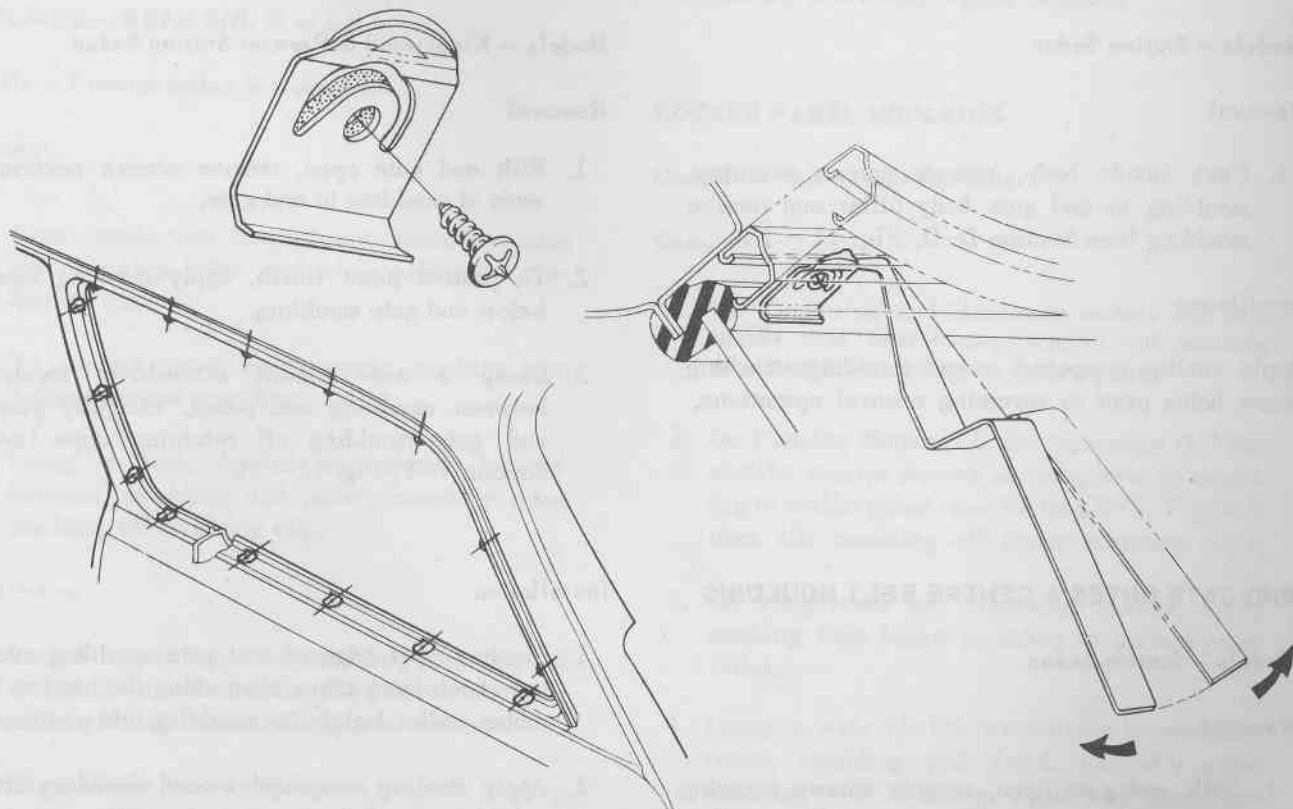

FIG. 12 - 9
2. On Statesman models, remove screw securing rear end of moulding to rear quarter panel (see Section R-R, Fig. 12 - 2).
3. On coupes and sedans other than Statesman, open rear compartment lid and from within compartment, remove sealing nut securing rear end of moulding to rear quarter panel (see Section Q-Q, Fig. 12 - 2).
5. Using a wide bladed screwdriver located between moulding and panel, carefully prise moulding off retaining clips (see Section P-P, Fig. 12 - 2).
1. Insert moulding removal tool No. 1A6, between moulding and rubber weatherstrip, until point of tool engages with one of the retaining clips, then using the tool in a rocking motion (see Fig. 12 - 9), progressively disengage moulding from clips (see Section U-U, Fig. 12 - 2).
3. Using a wide bladed screwdriver, carefully prise centre moulding off retaining clips (see Section T-T, Fig. 12 - 2).
1. From inside body, remove screws securing moulding to end gate body pillar and remove moulding (see Section D-D, Fig. 12 - 1).
3. Using a wide bladed screwdriver located between moulding and panel, carefully prise end gate moulding off retaining clips (see Section T-T, Fig. 12 - 2).
1. With rear compartment lid open, remove screws securing ends of moulding to rear compartment lid (see Section V-V, Fig. 12 - 2).